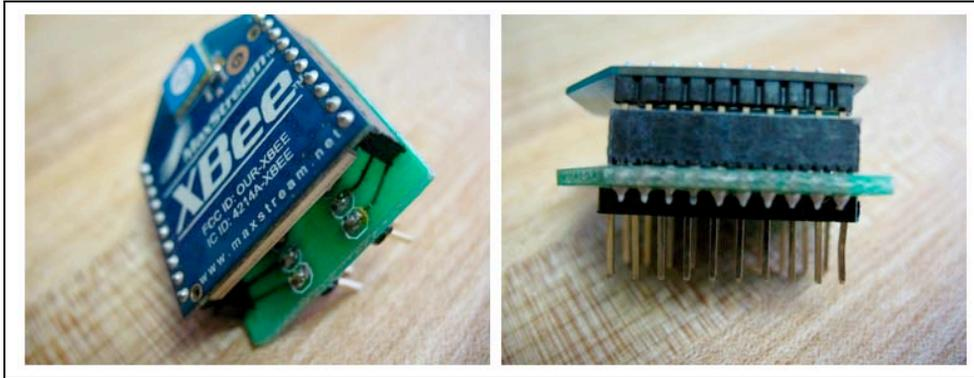

Figure 3. Finished breakout board with XBee mounted
3. Test-fit the XBee into the female sockets, being careful not to bend its pins (see Figure 3).